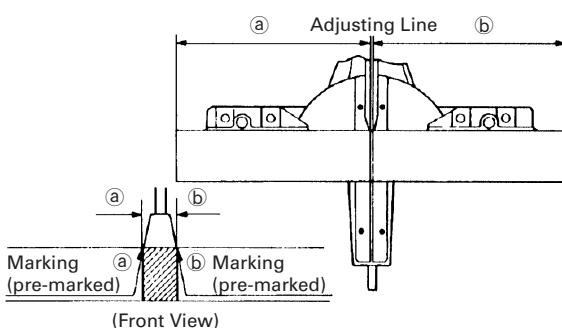

Fig. 27
(1) As shown in Fig. 27 the width of the saw blade is the width of the cut. Therefore, slide the workpiece to the right (viewed from the operator's position) when length (b) is desired, or to the left when length (a) is desired.